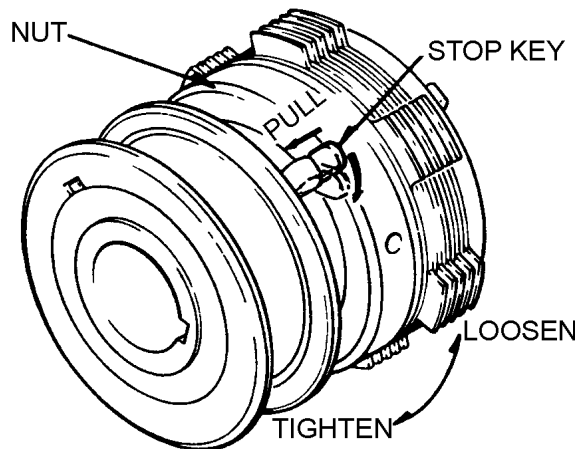

Figure 30. Chain Tightener
2. Check the chain tension and if loose, adjust the chain tension with the tightener (Figure 30). Chain tension should be adjusted every 50 hours of operation.
2. Pull out the stop key and turn to the release position (Figure 30).